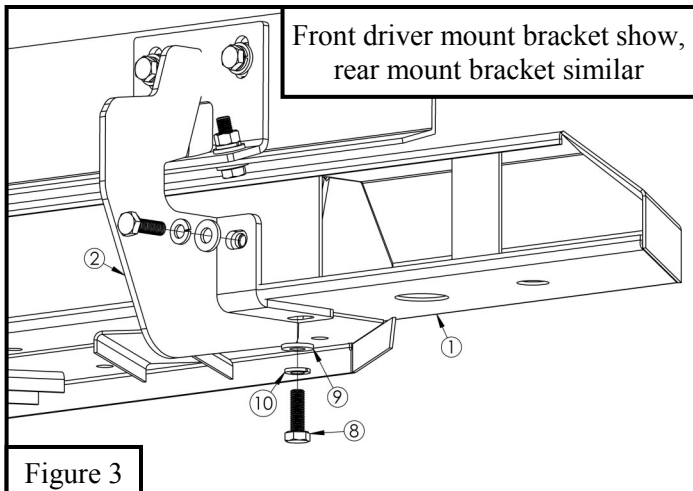

Figure 3
5. For Step Board installation to the previously installed mounting brackets use the supplied M8 hardware (Items 8-10). See **Figures 3 and 4.**